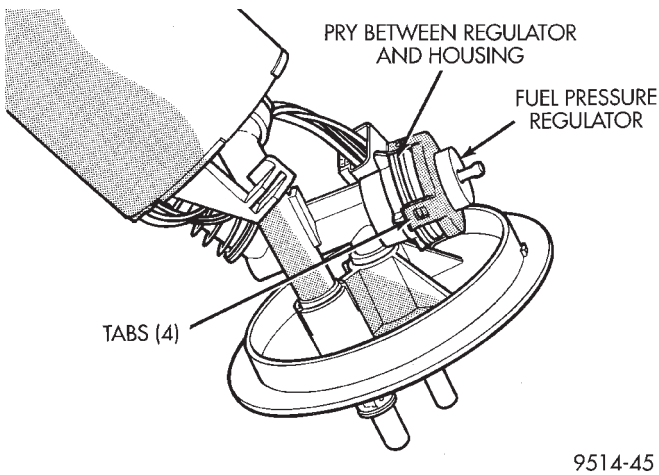

Fig. 17 Fuel Pressure Regulator
The fuel pressure regulator is part of the fuel pump module (Fig. 17). Remove the fuel pump module from the fuel tank to access the fuel pressure regulator. Refer to the Fuel Pump Module removal in this section.
- (1) Spread tangs on pressure regulator retainer (Fig. 17).
- (2) Pry fuel pressure regulator out of housing.
- (3) Ensure both upper and lower O-rings were removed with regulator.